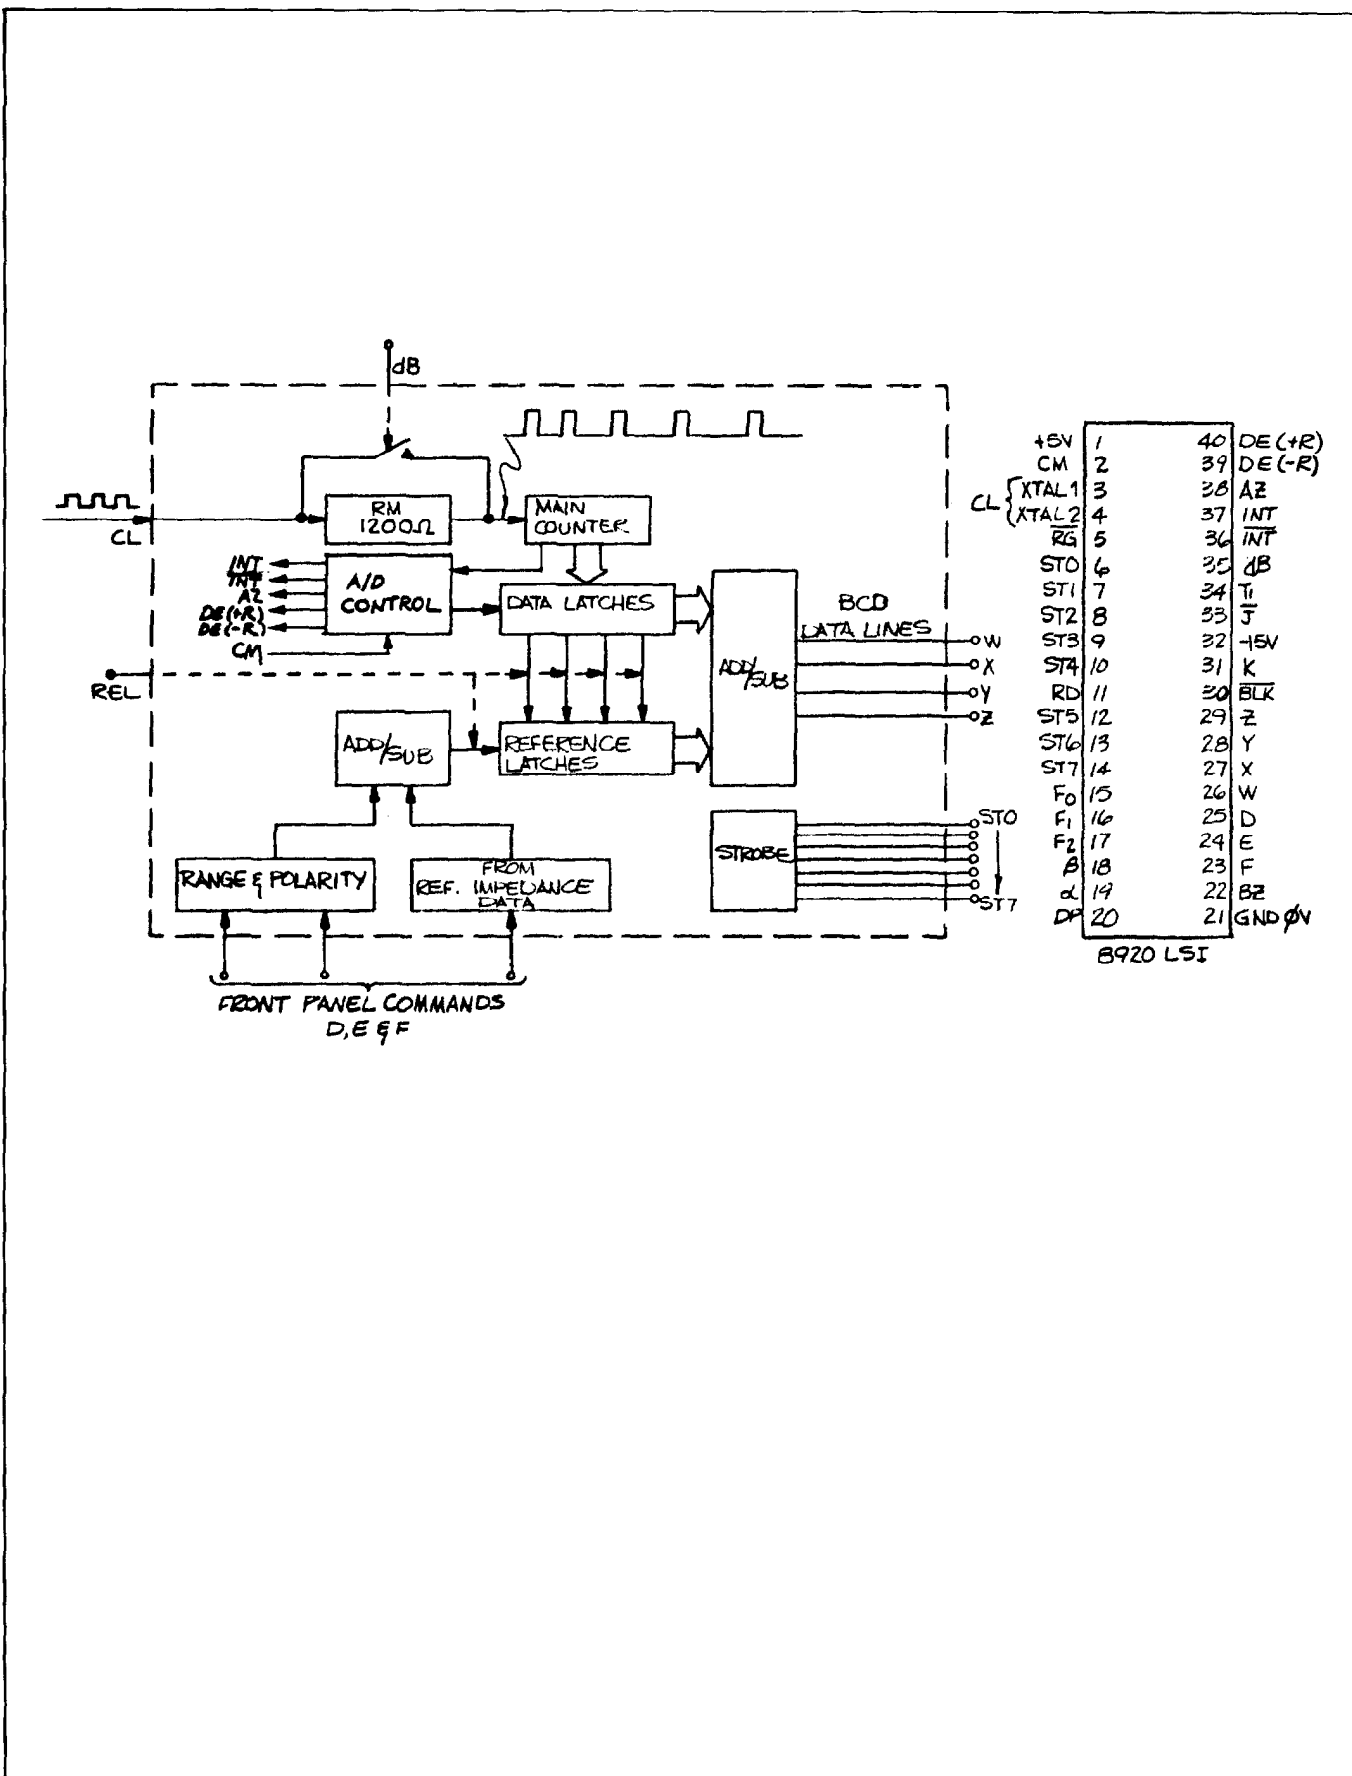

Figure 3-7. Controller Functions
3-25. The Controller is a custom LSI that controls autoranging, the A/D Converter and the Display and Annunciators for the 8920A and 8921A. In addition, the Controller can convert the input signal to the instrument into a dBm scale through any one of twelve reference impedances, or a dB scale relative to a previously selected voltage level depending upon the parameters manually selected with the front panel controls. The A/D Converter has already been described and the Display and Annunciators will be described immediately after this section on the controller. A summarized description of each input and output pin used on the controller is given in Table 3-2 and shown in Figure 3-7.
3-32. If the dB/VOLTS control is in the dB position, a non-linear count of the clock pulses is enabled. The binary rate multiplier (RM) passes only a fraction of the clock pulses on to the Controller's main counter (see the illustrated input to the main counter on Figure 3-7). This count approximates the logarithmic curve of the dB scale and is stored in the data latches.